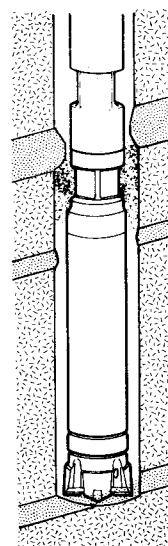
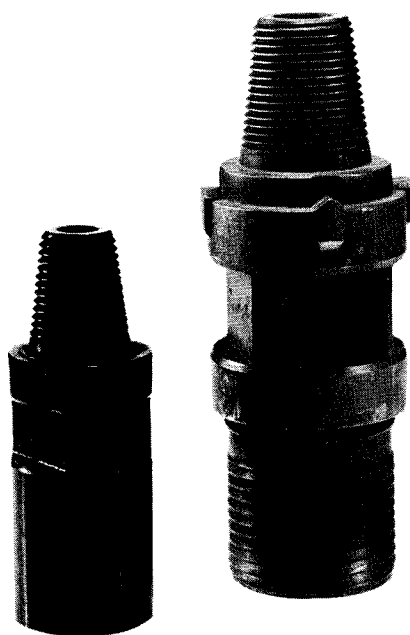

Fig. 20d. Clay strata may be forced out into the drill hole and impede drilling. Clay may even clog the flushing holes of the bit
Fig. 21. Subs with flushing holes and retrac inserts for COP 4 and COP 6
6.2. Extra flushing during drilling (Fig. 21)
6.3. Retractable sub (Figs. 21 and 23)
The retrac sub is also used in clay strata (Fig. 20d) to ream up the congestion which may arise. On COP 4 a special adapter is used, fastened to the top sub of the machine (Fig. 23) while COP 6 is equipped with a special top sub with rear-directed cemented carbide inserts (Fig. 21). The top sub has a number of holes which make extra flushing possible (see above). The holes can be plugged if the additional flushing air is not desired.